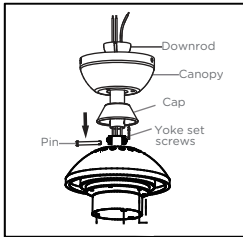

Fig. 7a
- Loosen yoke set screw and nut and remove pin and clip if preinstalled. Place downrod into the motor housing yoke and insert pin and clip. Tighten yoke set screw and nut securely (Fig. 7a).